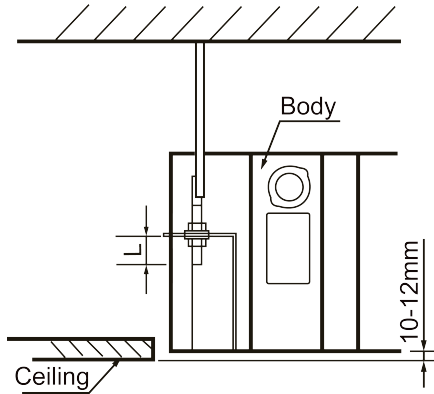

fig. 12.6
- Adjust the position to ensure the gaps between the body and the four sides of ceiling are even. The body's lower part should sink into the ceiling for 10~12 mm (refer to fig.12.6).
- In general, L is half of the screw length of the installation hook. (refer to fig.12.6)